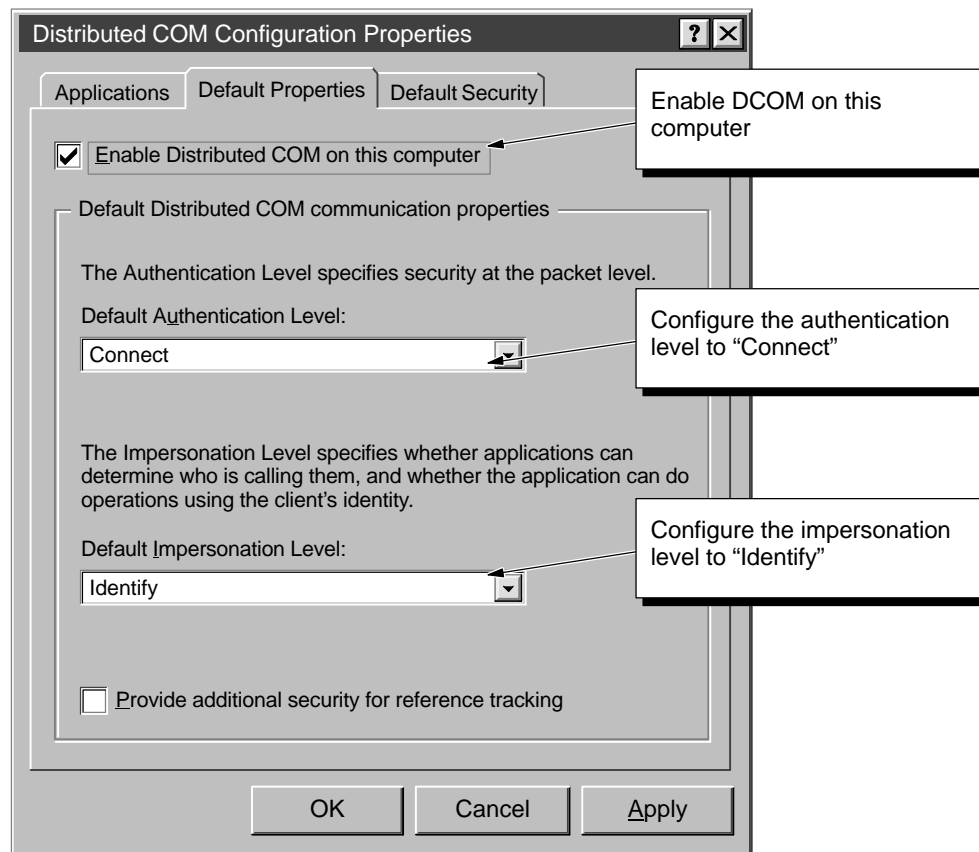

Figure E-14 Distributed COM Configuration Properties
1. Click on the “Default Properties” tab. See Figure E-14.